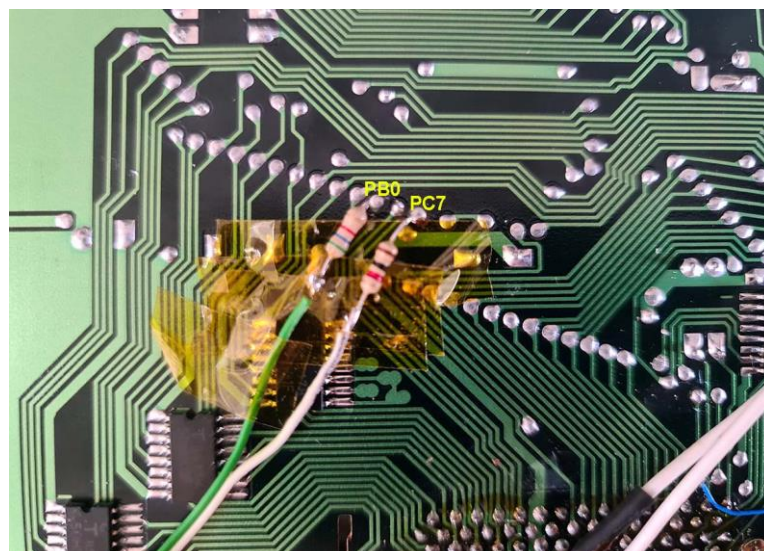
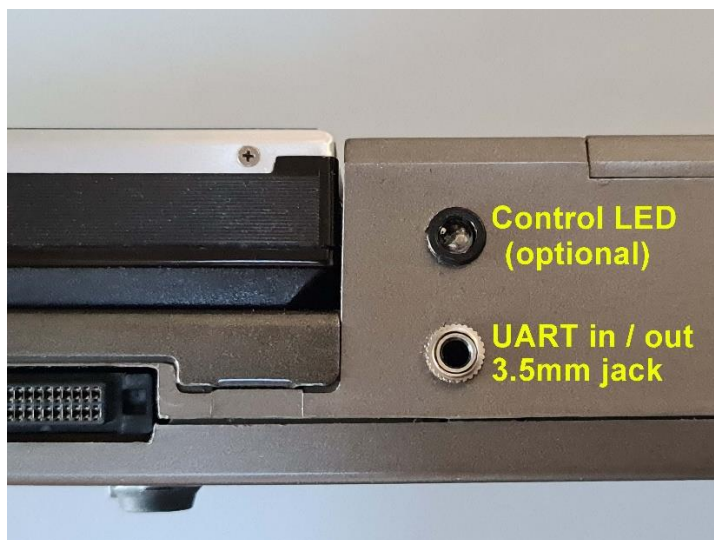

Fig. 5 Close-up of the wires and resistors soldered to the PB0 and PC7 points
Fig.6 UART jack on the CE-150's rear panel and the optional LED
2. Solder a 3-core cable to: (1) ground (GND) on the PCB, (2) the PB0 point through a 1–10 k Ω resistor, (3) the PC7 point through a 1–5 k Ω resistor. The points are shown in Fig. 5. Solder the other end of the cable to a socket, e.g. a 3.5 mm stereo jack, and mount it in a free spot on the case (as shown, see Fig. 6). Write down which contact is which, for example: tip = TX (PC7), ring = RX (PB0), sleeve = GND. You can also simply bring longer wires out of the interface without a socket: less elegant, but it works just as well.
3. Besides the jack, Fig. 6 shows a red-green LED that indicates the state of the RX and TX lines. It is optional. If you add it, use a high-efficiency LED, so that a very small current already makes the red and green parts glow without loading the port lines too much. I used an RGB LED (blue part unused) with 3.3 k Ω resistors; it glows clearly at about 0.5-1.0 mA. *Note: The LEDs will be lit in the idle state (the UART idle level is 'high').*